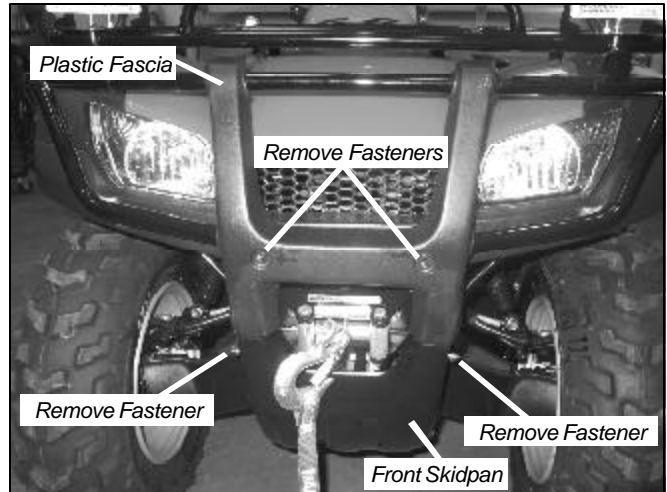

Figure 1 Remove Fasteners
1. Remove the two front fasteners securing the plastic fascia to the bottom of the ATV rack, figure 1. These fasteners will be replaced with new fasteners that came in the kit.
2. Remove the two side 8mm bolts holding the front skidpan into position, figure 1. These fasteners will be reused in the installation of the bumper.